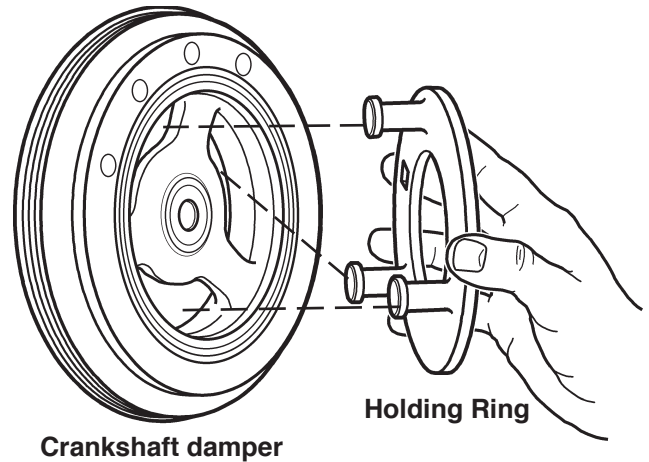

Figure 1
1. Place the pin side of the holding ring into the slots on the crankshaft damper. See Figure 1.